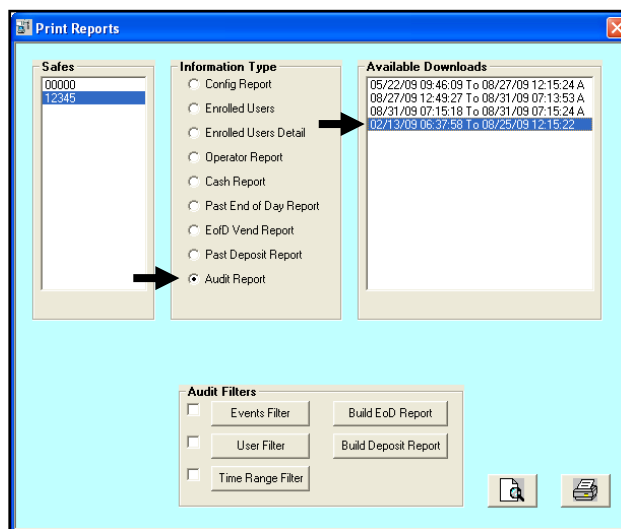

Fig. 9.8
- 3) Select the report to generate from the Information Type list and then select the date from the **Available Downloads** field (Fig. 9.8).